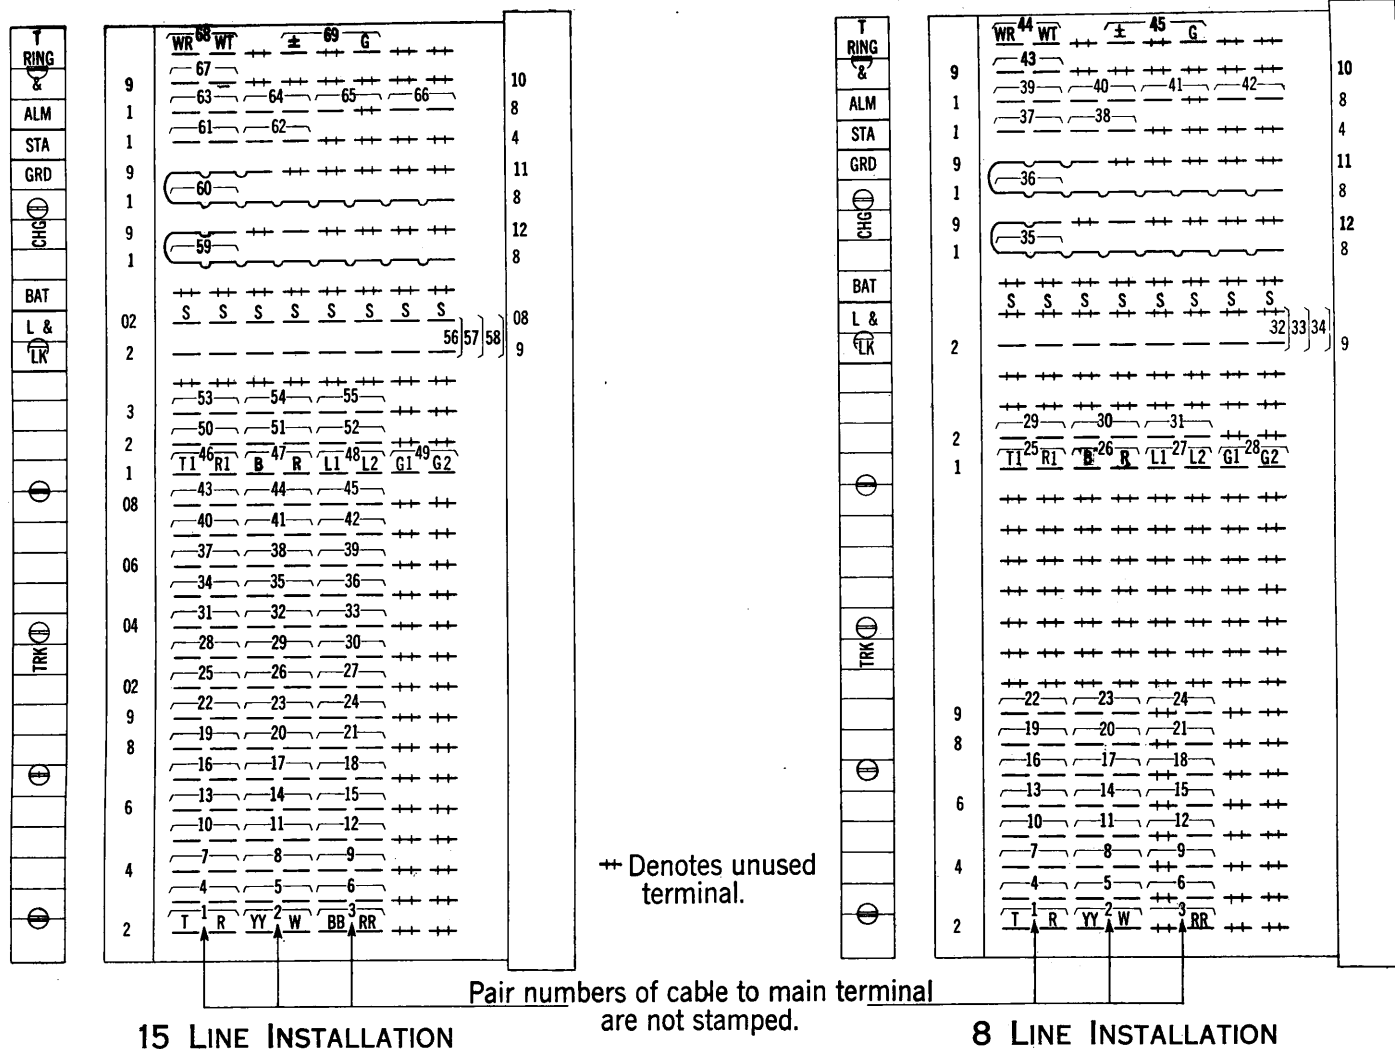

Fig. 5—Incoming Terminal Strip
3.34 Form, fan and sew each end of the cable for connection at the main cross-connecting terminal as shown in Figs. 3 and 4 and at apparatus cabinet according to Fig. 5.
3.37 Run groups of pairs through proper fanning holes in terminal strip, skin and connect to terminals as shown in Fig. 5.